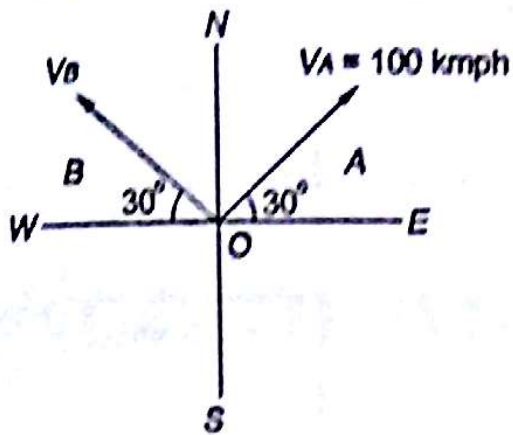

Fig. 12.19
- 12.2 Two ships A and B start from O with velocities of 100 kmph NE and 100 kmph NW. What is the distance between the two after 2 hours (Fig. 12.19)?